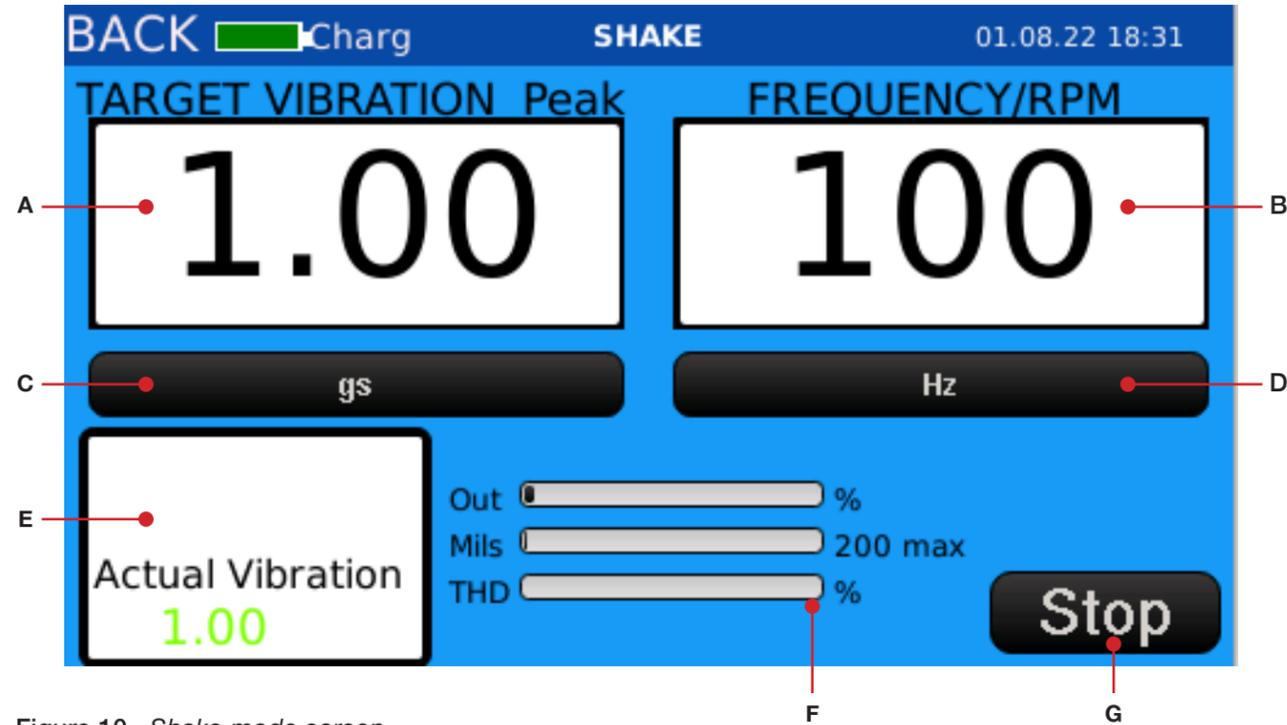

Figure 10. Shake mode screen
1. To begin the test (Figure 10):
During the test the amplitude and frequency may be adjusted (Figure 10).
During the test, the values shown in the onscreen amplitude display and frequency/RPM display may be adjusted (Figure 10):
Purewave is the distortion compensation algorithm. The status of Purewave is indicated by the color of the Reference data point (Figure 10):